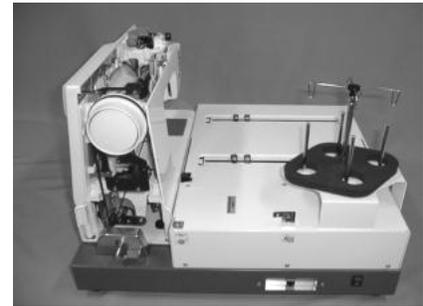

FIGURE 6-1
3. Remove the top cover and the belt cover. Fig.6-1